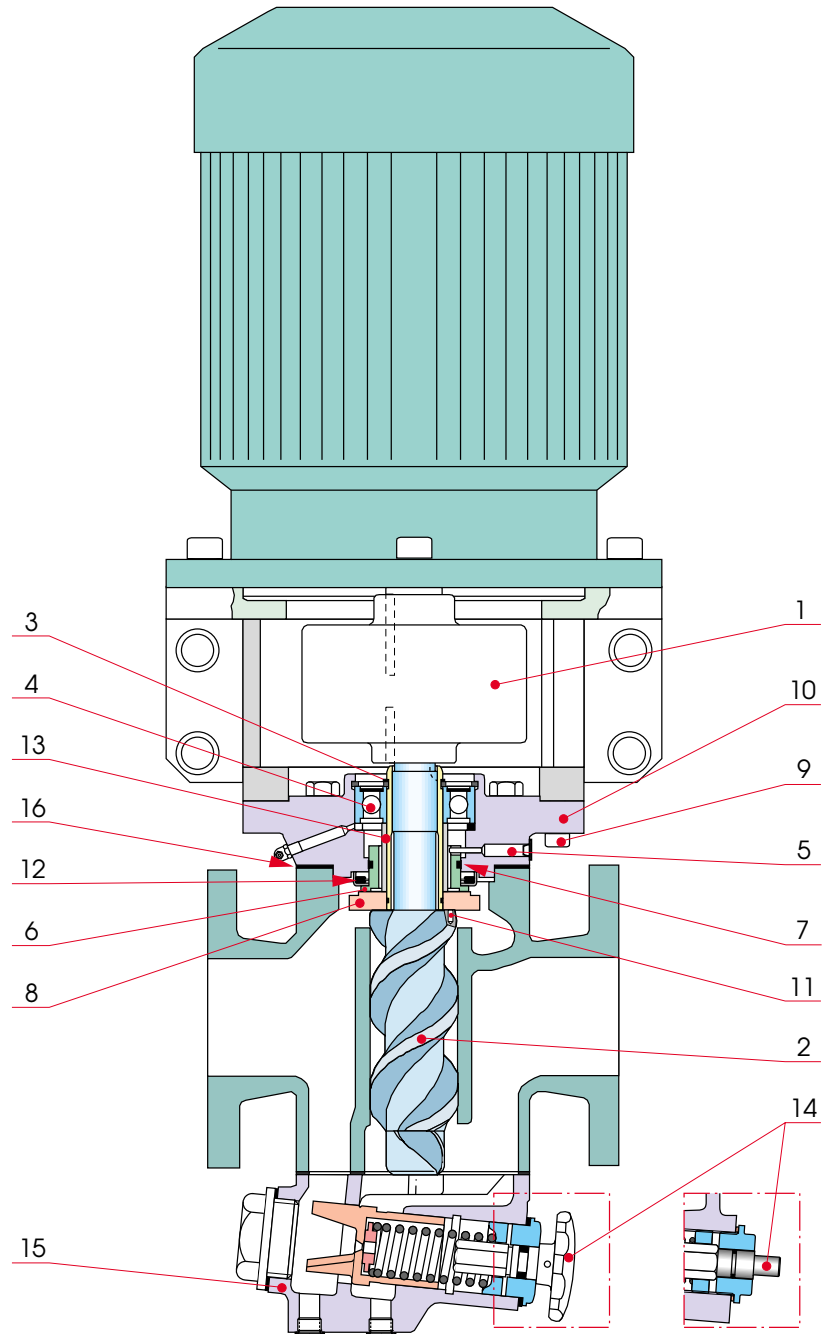

Fig 18-7
The pump is of the screw type, driven by an electric motor. The pump is provided with an adjustable pressure control valve (15), Fig 18-7. The pressure should be limited to the min. value, about 2 bar, by unscrewing the adjusting screw (14) to the end position in order to prevent the electric motor from being overloaded when running with very cold oil.